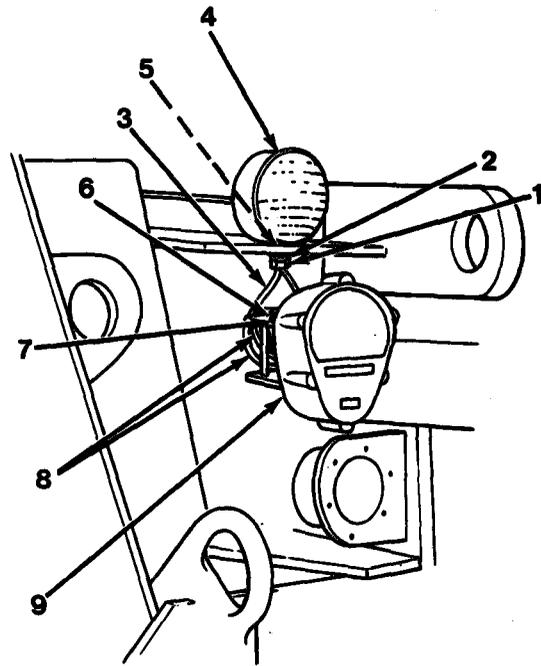

Figure 10-1
1. Install taillight (9), two wires (8), lockwashers (7) and capscrews (6, Figure 10-1).
2. Install washer (5), turn signal (4), wire (3), washer (2) and nut (1).